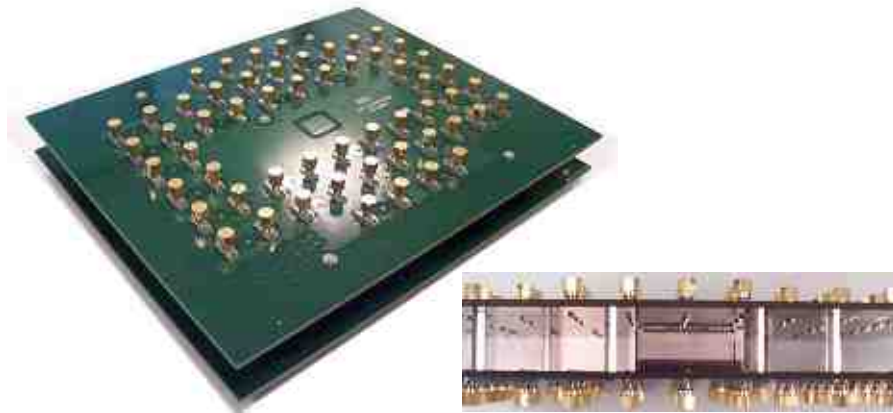

Figure 4-2 Demo board
For high-speed data transmission, the transmitters (TX) and receivers (RX) are usually grouped separately, in order to minimize the effect of near-end crosstalk (NEXT). Actual measurements were taken on 120mil test boards (Figure 4-2) with IT5-35mm insert molding connector, 2 via transitions through mid routing layers, and 6"+6" FR408 PCB traces.